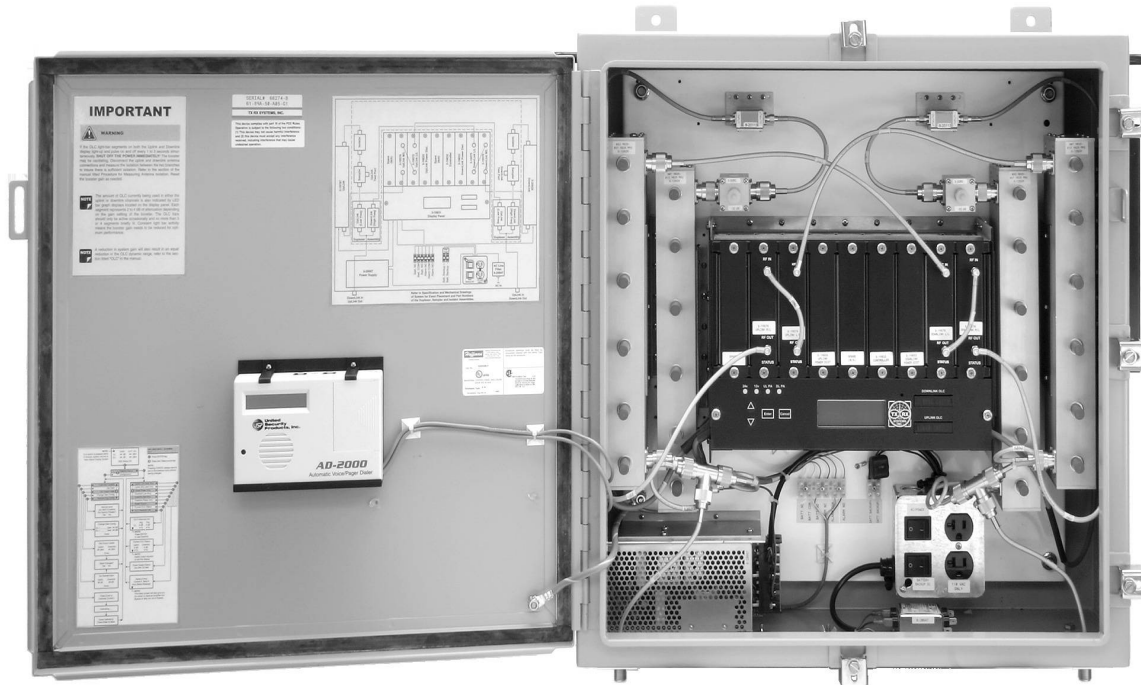

Figure 1: Correct installation of the automatic voice/pager dialer model # 6150-Page.
The voice/pager dialer should be mounted to the inside front door of the SB II cabinet as shown in **Figure 1**. All work should be performed by a qualified electronics technician familiar with the signal booster system. Follow the step-by-step instructions listed below to complete the installation.
- 7) Attach the two cables from the dialer unit to the door using self-stick wire clamps as shown in figure 1. Make sure there is enough slack in the cables so they do not pinch or stretch when the door is opened and closed. Route the cables through the SB II cabinet such that the DC cable can enter the lower left corner of the card